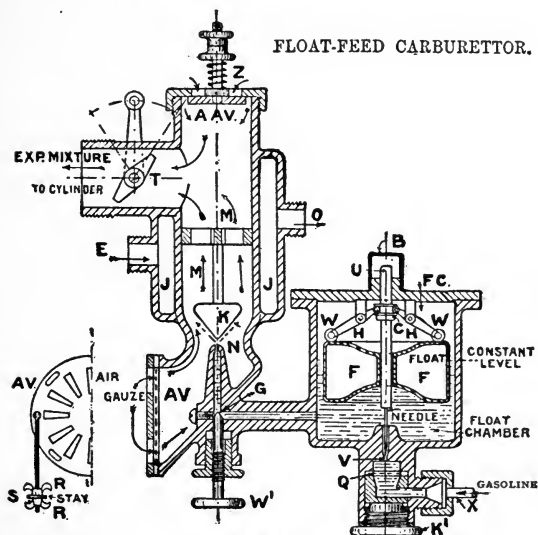

Fig. 6.
12. The Float-Feed Carburettor.—The type of carburettor that has survived all others, owing to its simplicity and absolute automatic action, is the *float-feed* one or *spray* kind, shown in Fig. 6, which shows the principal features of the class of carburettor to which it belongs. An *atomizing nozzle* N (whose size is care-
In starting, it is sometimes necessary (owing to the nozzle becoming more or less closed by dirt, and the gasolene in it becoming stale¹ by standing) to flood the carburettor and to assist in forming a rich mixture by spraying the spirit by hand; to do this, the thimble B (Fig. 6) is taken off, and the end U of the valve spindle moved up and down, an upward movement allowing the gasolene to enter the float-chamber from the tank, and a push downwards forcing it through the nozzle.
16. **Straining and Filtering Gasolene.**—Comparatively few motorists realize the necessity of carefully straining the gasolene as it is poured into the supply-tank of the car. If they commence by using a strainer, sooner or later it will become mislaid, and the spirit is poured into the tank direct from the can; in doing this, they risk getting an accumulation of dirt in the tank, which in due course finds its way into the carburettor, with the inevitable stoppage, for, even if the carburettor is fitted with a disc of gauze within the union below the float-chamber, as shown at Q in Fig. 6, it is only a matter of time for its minute interstices to become completely filled, and the flow of gasolene to be stopped, so, should the strainer become mislaid, one should be improvised. For instance, a clean handkerchief folded three or four times has been found to be an effective substitute. Many motorists have been troubled by a kind of short silky fluff getting into the union below the float-chamber; this stuff is much too fine to be arrested by the gauze, so something with a much finer mesh is required for the strainer; a good-sized piece of